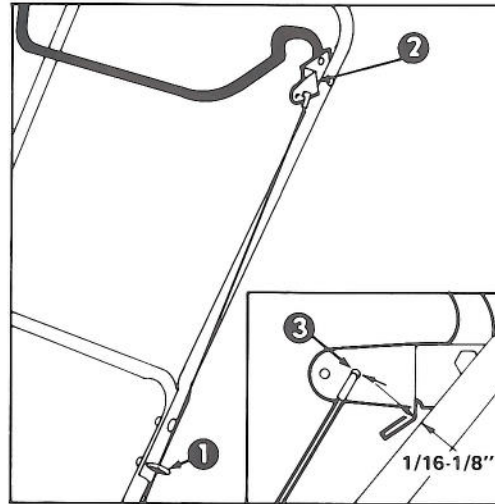

Figure 9
ADJUSTING CONTROL BAR (Fig. 9&10)
2. CHECK ADJUSTMENT-(Fig. 9) — Move control bar back toward handle until slack in cable is removed. Gap between control bar bracket and handle should be approximately 1/16-1/8". If cable is too loose or too tight proceed to step 3 for adjustment procedure.